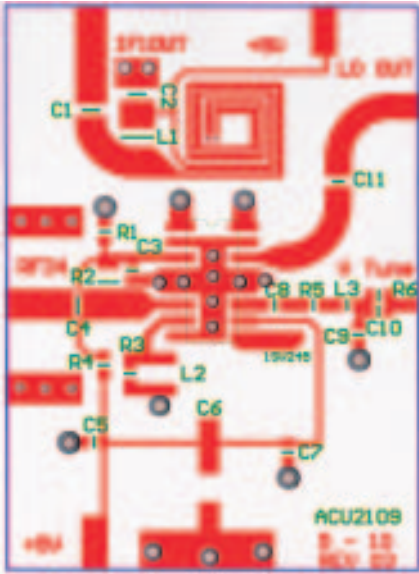

Figure 19: ACU2109 Evaluation Board Top View
- (1) Case temperature is 15 °C higher than Ambient Temperature, when Ambient Temperature is ≤ +65 °C, using PC Board Layout shown in Figures 19 - 20.
(1) Case temperature is 15 °C higher than Ambient Temperature, when Ambient Temperature is ≤ +65 °C, using PC Board Layout shown in Figures 19 - 20.
(1) As measured on ANADIGICS Evaluation Board shown in Figures 19 - 20.
(2) 138 channels, 0 dB tilt, +7 dBmV flat
(3) 138 channels, -10 dB tilt, +7 dBmV at 55.25 MHz
(4) As measured in ANADIGICS test fixture, using Anaren 3 dB 180° coupler (part no. 30055) and external bias-tees.
(5) All channels 99% AM modulated at 15 kHz, including adjacents
(6) Two tones, -15 dBm (+33.75 dBmV) each
(7) At 250 kHz comparison frequency, 3 kHz loop bandwidth
(8) Case temperature is 15 °C higher than Ambient Temperature, when Ambient Temperature is ≤ +65 °C, using PC Board Layout shown in Figures 19 - 20.